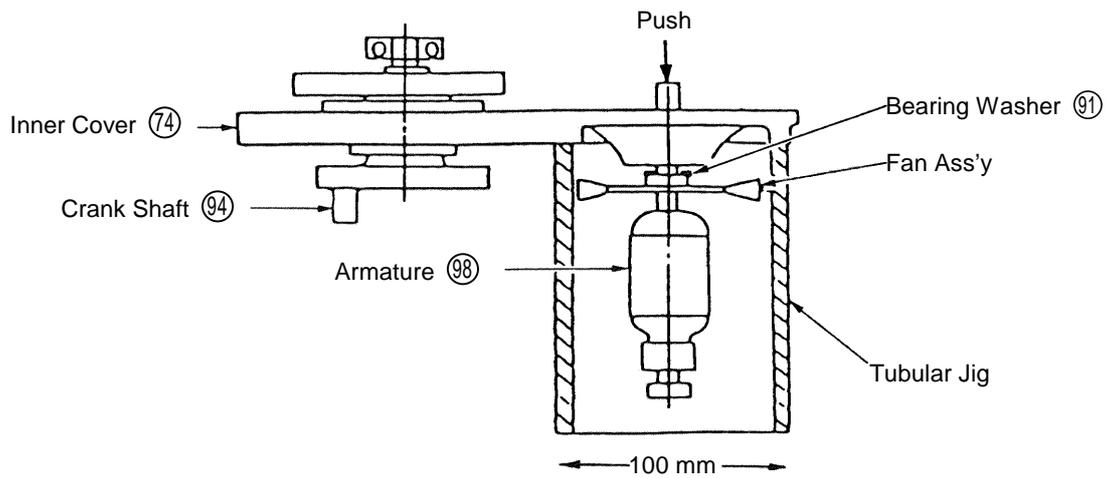

Fig. 8
E. Remove the four M10 x 45 Bolts ③⑦, and take off the Cylinder Case ③⑥. Next, remove the M10 x 16 Hexagon Socket Hd. Bolt ⑤⑨. The Connecting Rod Ass'y ④⑤ and Crank Washer ⑤⑧ can then be taken out. Leave the Striker ④① and Piston ④③ as they are.
F. Remove the four M10 x 60 Hexagon Socket Hd. Bolts. ⑥⑥ and two M10 x 55 Hexagon Socket Hd. Bolts ⑧③, and take off the Gear Cover ⑧④. At this time, also remove the Counter Gear ⑧⑥. Next, insert a minus screwdriver or similar tool into one of the air vents on the Inner Cover ⑦④, and lift it upward to remove the Inner Cover ⑦④, Armature ⑨⑧, Crank Shaft ⑨④, and related parts in a single body.
G. As illustrated in Fig. 8, support the lower surface of the Inner Cover ⑦④ with an appropriate tubular jig (100 mm inner dia.), and push down on the pinion end of the Armature ⑨⑧ with an arbor press to separate the Armature from the Inner Cover ⑦④. At this time, be very careful not to lose the Bearing Washer ⑨① which is mounted on the fan ass'y portion of the Armature.